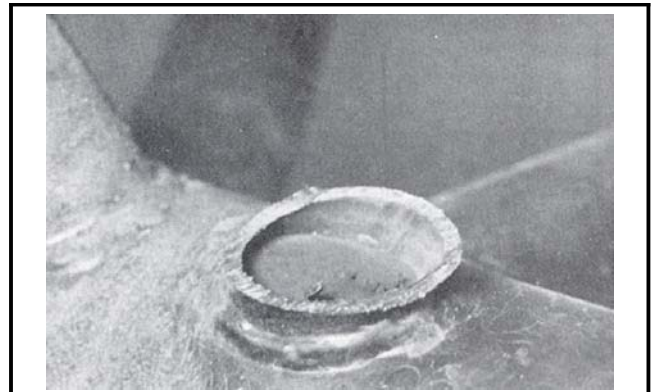

**Figure 13
2. Removal of the lattice, diagonal, or picture frame lattice is most easily accomplished on flattened diagonals, single flattened lattice, pinched lattice and pinched diagonals by cutting well above the weld and manually flexing the tube until it separates just above the weld. See Figure 13. For double lattice connections of the flattened type, a hacksaw or similar cutting tool must be used. For coped lattice and diagonals, a hacksaw, torch, or similar cutting tool is recommended. See Figure 14 and Figure 15.